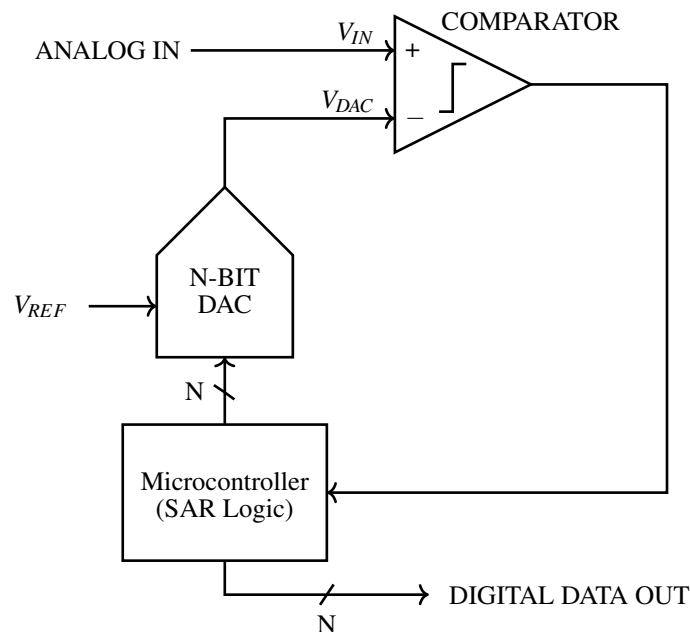

Figure 2: SAR ADC circuit diagram
The SAR ADC algorithm tries various binary “trial codes” by feeding them into a **DAC** to generate voltages and comparing the result with the analog input voltage using a **comparator**. It then uses feedback (**SAR logic**) to adjust the DAC voltage to get as close as possible to the analog voltage. The algorithm starts with the most significant bit (MSB), which is the bit with the largest binary weight (i.e. furthest to the left in a binary number). The circuit diagram of the SAR ADC is shown in Figure 2. The comparator outputs logic high (1) when  $V_{IN} \geq V_{DAC}$  and logic low (0) when  $V_{IN} < V_{DAC}$ . An illustration of the algorithm is shown in Figure 3.
Let’s walk through the operation of the N-bit SAR ADC shown in Figure 2 in detail.